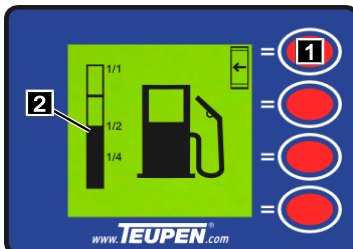

Fig. 83
The fuel level is indicated by the column (Fig.83/2).
1. Return to the main menu with [function key] (Fig.83/1).